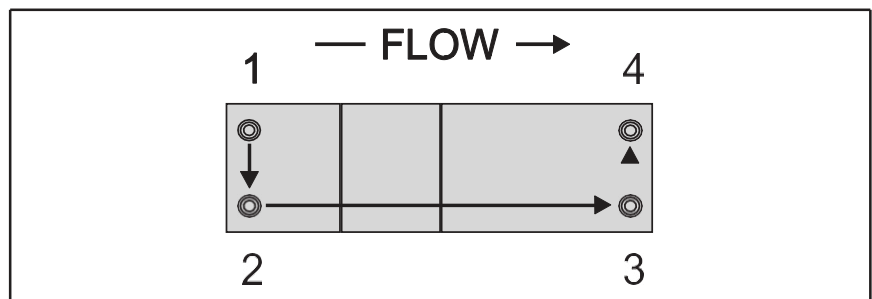

Figure 2-4 Mounting Screws Torque Pattern
4. Using a torque wrench and a metric hex key, tighten the screws to the torque value as described in Table 2-2 and Torque Pattern Figure 2-4.